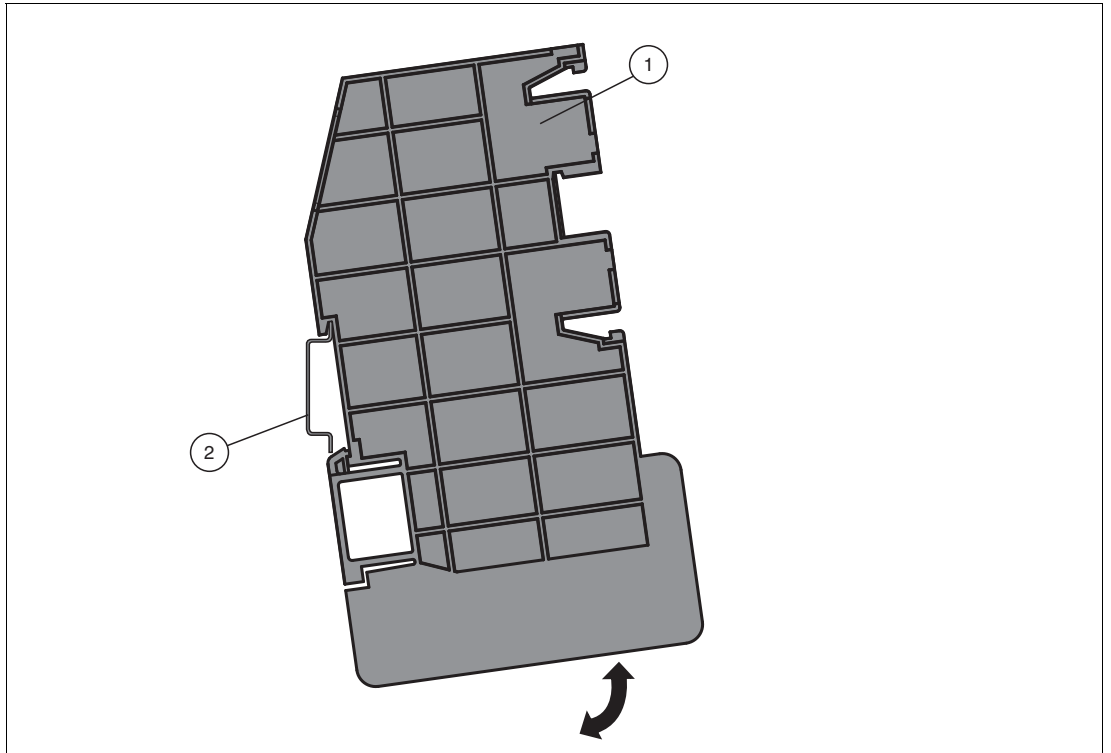

Figure 3.2 Mounting the separation wall onto the DIN mounting rail
Clip the separation wall (1) onto the DIN mounting rail (2). See Figure 3.2.